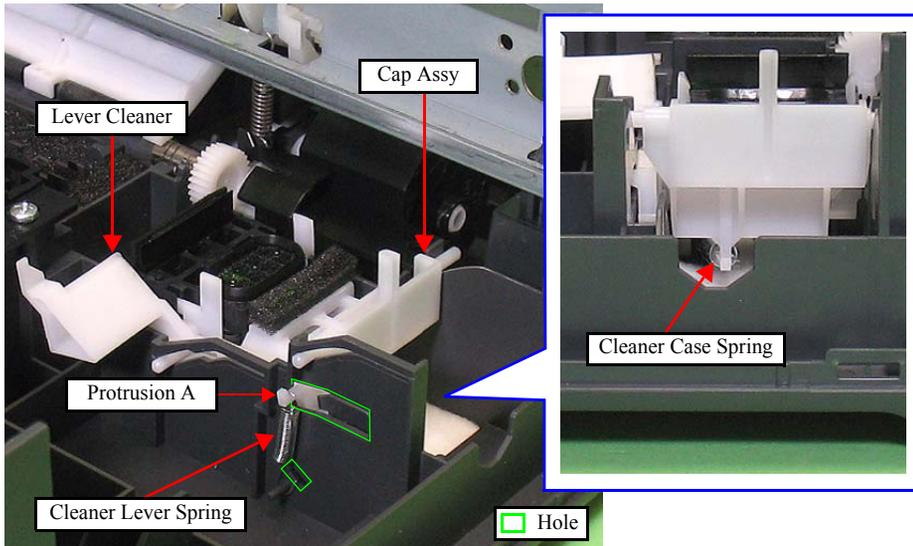

Figure 4-50. Removing the Cap Assy (1)
- When installing the Cleaner Lever Spring, insert the longer end of the spring into the Lower Housing, and secure it to the protrusion A of the Cleaner Lever attached through the hole of the Lower Housing. (See Fig.4-50.)